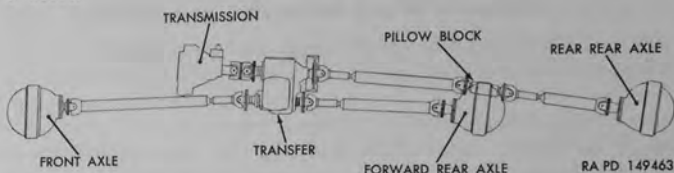
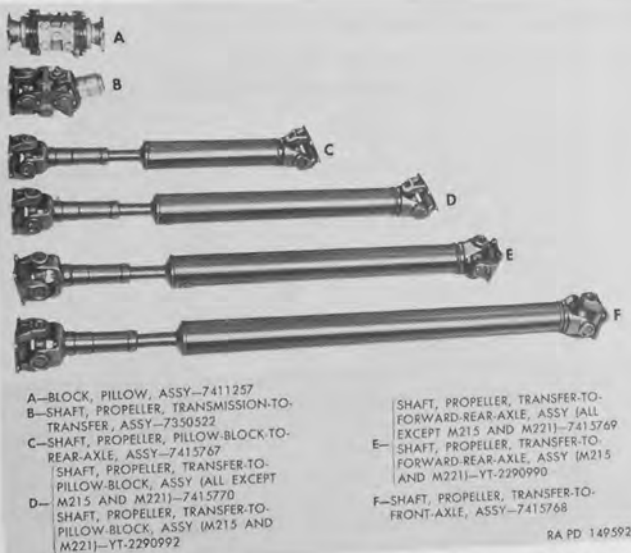

Figure 149. Arrangement of propeller shafts and universal joints.
Figure 150. Propeller shaft assemblies and pillow block assembly removed.
Propeller shaft and universal joint assemblies interconnect the transmission and transfer, and the transfer and front and rear axles in arrangement illustrated in figure 149. The propeller shafts transmit power from the transmission to the transfer, and from the transfer to front and rear axles. Replacement procedures for all propeller shaft assemblies and pillow block assembly are contained in TM 9-819A.
The four axle propeller shaft assemblies (fig. 150) are tubular type equipped with fixed yoke universal joint assembly at one end, and slip yoke universal joint at the opposite end. Each joint is equipped with a flange which bolts to a companion flange at the axle differential carriers, transfer output shafts, or pillow block assembly as illustrated in figure 149. Universal joint assemblies at fixed and slip joint ends are identical, and are needle roller bearing type. Each roller bearing assembly is retained in place on journals in yokes by a snap ring. Rebuild procedures for axle propeller shafts are contained in section II of this chapter.
The pillow block assembly (fig. 155), mounted on top of housing of forward rear axle (fig. 149), connects and supports the two propeller shafts required to transmit power from transfer to rear rear axle. Rebuild procedures for pillow block assembly are contained in paragraphs 222 through 225.
The four axle propeller shaft assemblies ((C), (D), (E), and (F), fig. 150) are identical in construction except lengths of tubular shaft and stub shaft assemblies. Each shaft has a slip joint at one end to permit telescopic action of shaft during operation. One half of the
The propeller shaft assembly between transmission and transfer (B, fig 150) consists of two universal joint assemblies bolted together to form a propeller shaft assembly. The sleeve yoke assembly (Q, fig. 152) fits on splined output shaft of transmission to form a slip joint. The flange yoke (P, fig. 152) bolts to a companion flange on transfer input shaft. Needle type roller bearing assemblies are used at each universal joint.